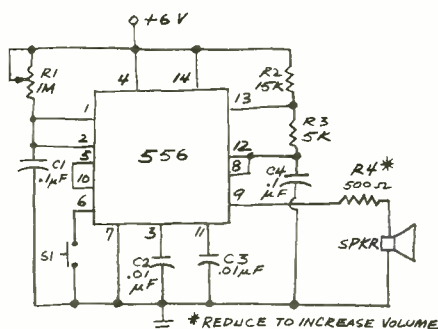

Fig. 2. Tone-burst generator.
**Tone-Burst Generator.** Figure 2 shows a circuit for a tone-burst generator using a single 556 dual timer. The first half of the 556 is connected as a monostable multivibrator (one-shot) whose timing period is controlled by  $R1$  and  $C1$ . The second half of the 556 is connected as an astable (free-running) multivibrator which produces an audio tone with a frequency governed by  $R2$ ,  $R3$  and  $C4$ .